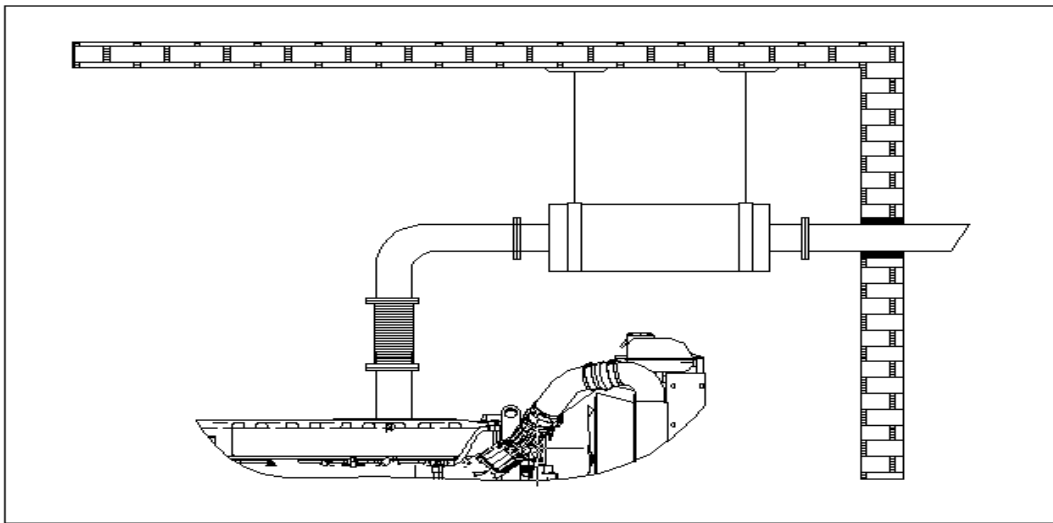

Figure 7
- * It is recommended to make heat isolation in the exhaust system to decline heat spreading from the exhaust system to the generator room. Similarly, exhaust heat isolation to be made contribute to decrease engine noise level to some extent. (Figure 7)